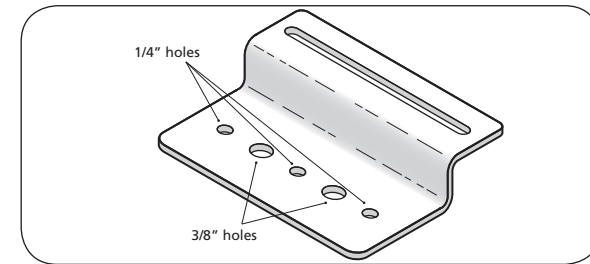
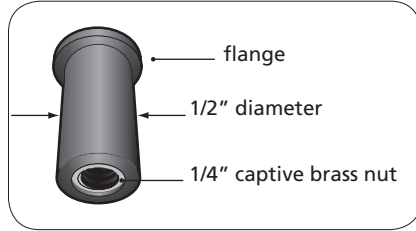
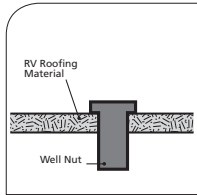

Fig.1. 5-hole mounting bracket
Fig. 2. Construction of a Well Nut
Fig. 3. Well-Nut is inserted into a pre-drilled hole with its flange against the outer surface. There is no need for access to the inner side.
The SM5-KIT includes four sturdy 5-hole Aluminum mounting brackets (Fig. 1) with stainless steel hardware required to securely fasten a solar panel to the roof of your Recreational Vehicle (RV) or any other flat surface.
A Well-Nut is a bushing of tough neoprene rubber with a flange at the top end and a captive brass nut mounted within the bore at the bottom end (Fig. 2). This is used to anchor the mounting bracket (Fig. 1) on to the roof of the RV or to other flat surface. Typical installation is shown in Figs 3 to 6. Tightening a conventional machine bolt or screw engages the captive nut thereby causing the bushing to expand outwards. This fastens securely to thinner RV roofs by bulging up and against the bottom surface of the roof (Fig. 5). If used in a blind hole in a solid surface material, the rubber will expand outwards to create a secure fastening (Fig. 6). The neoprene and brass resist most environmental conditions. Additionally, the Well-Nut seals the drilled hole effectively against air and liquid leakage.
5. The centre and end holes on the mounting brackets (Fig. 1) are sized to accept the 1/4" hardware supplied with the kit. If the use of larger sized hardware is desired, holes 2 and 4 can be used.
8. Insert the 1/4" Well-Nut into the drilled holes so that only the flange section remains above the roof surface (Fig. 3).